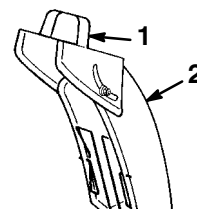

Figure 16
- **Chute Deflector Handle** (Fig. 16)—Move the deflector handle forward to move the snow stream down and rearward to move the snow stream up.